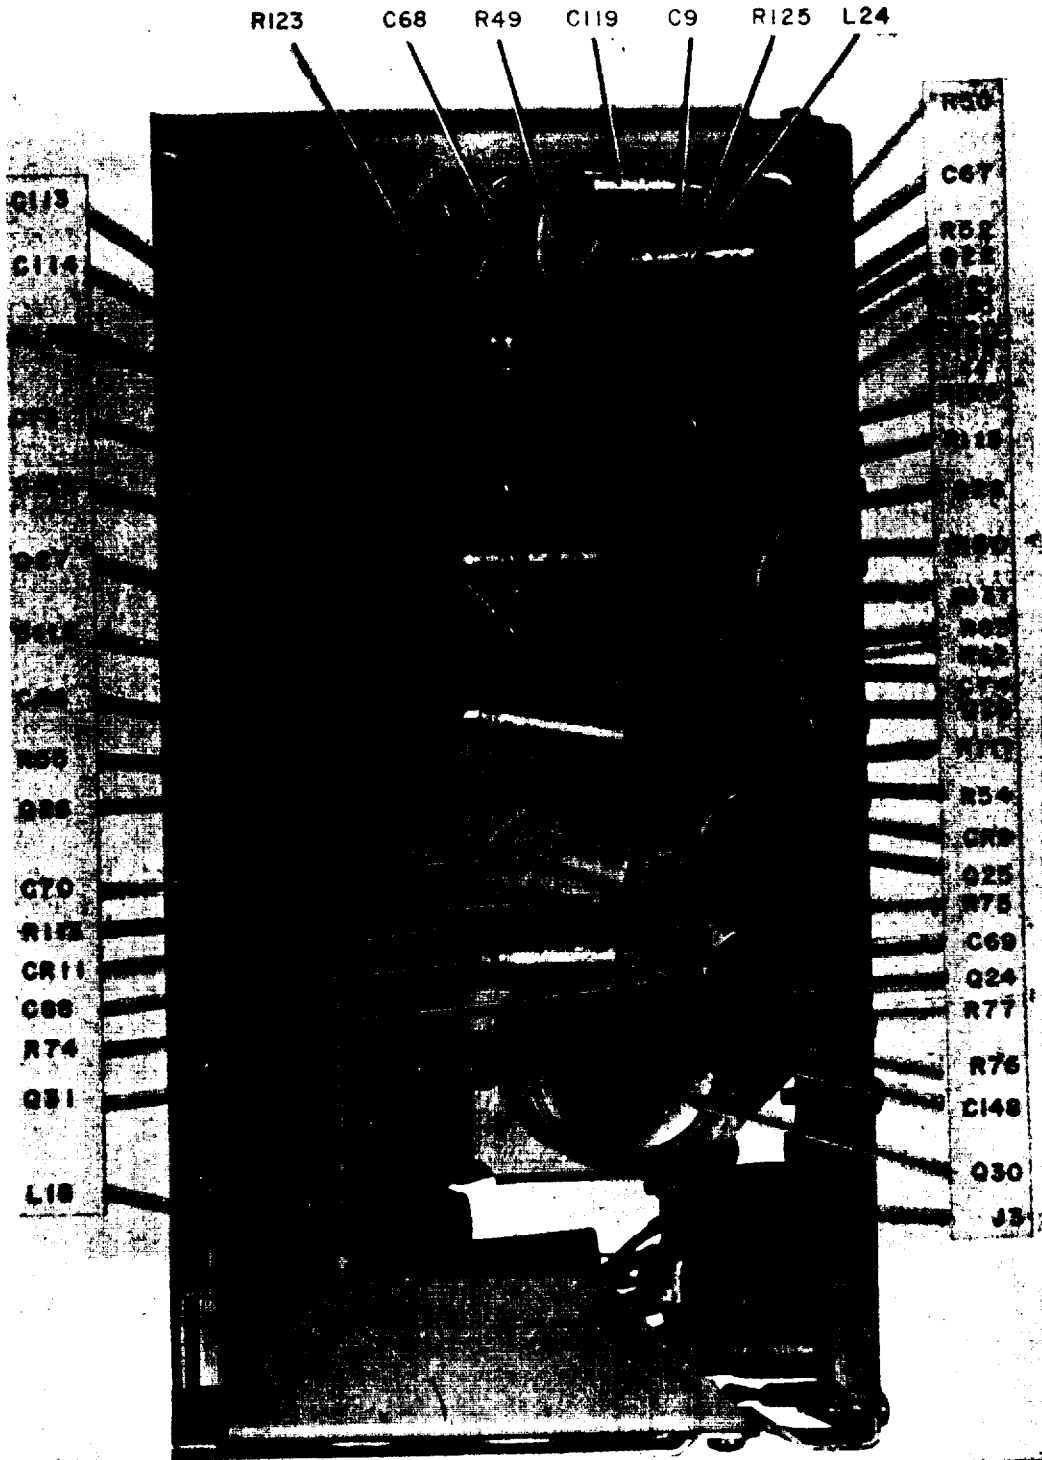

Figure 2-6. Power supply and servo compartment, right side view.
| 9 | Regulated power supply defective. | | Check transistors Q30 and Q31 (fig. 2-6). Make voltage measurements (fig. 2-17). |
| 12 | Receiver does not tune to a radio station. | Servo amplifier Q26, Q27, Q28, or Q29 defective. | Check transistors (fig. 2-6). Make voltage measurements (fig. 2-17). |
| 13 | Tuning servo does not hold station frequency, | Capacitor C74 coupled to control winding of tuning servo motor. | Check capacitor (fig. 2-6) |
| 16 | Erratic operation of bearing indicator. | <p>110-CPS oscillator stage defective.</p> <p>Push-pull resolver servo amplifier stage.</p> <p>Balanced modulator balance adjustment variable resistor R10.</p> <p>Loss of 110 cps on balanced modulator by reason of switch wafer S1-D not making contact.</p> <p>First or second RF amplifier stage defective.</p> <p>Power supply variable resistor R131 out of adjustment (provides base and emitter bias voltages for first resolver servo amplifier Q17).</p> <p>110-cps oscillator or 110-CPS amplifier defective.</p> <p>Push-pull resolver servo amplifier stage.</p> <p>First or second resolver servo amplifier stage defective.</p> <p>Synchronous filter stage defective.</p> <p>First agc amplifier defective (emitter follower function drives synchronous filter).</p> | <p>Check continuity of reference winding of B5. Using transistor tester, check transistor Q22 (fig. 2-6).</p> <p>With oscilloscope, check waveforms on base and collector of Q22 (fig. 2-18).</p> <p>Make voltage measurements (fig. 2-17).</p> <p>Check continuity of coil L32 (para 2-9a).</p> <p>Check transistors Q24 and Q25 (fig. 2-6).</p> <p>Make voltage measurements on Q24 and Q25 (fig. 2-17).</p> <p>Adjust R10 (para 3-19).</p> <p>Check continuity through switch contacts of S1-4 (fig. 2-8). Clean contacts if corroded.</p> <p>Check transistors Q1 and Q3 (fig. 2-8).</p> <p>Make voltage measurements (fig. 2-17).</p> <p>Adjust R131 (fig. 2-8 and para 3-20).</p> <p>See item 15.</p> <p>See item 15.</p> <p>Check transistors Q17 and Q18 (fig. 2-8).</p> <p>Make voltage measurements (fig. 2-17).</p> <p>Check transistors Q19 and Q20 (fig. 2-3).</p> <p>Make voltage measurements (fig. 2-17).</p> <p>Using oscilloscope, check 110-CPS waveforms on bases of Q19 and Q20. Compare with waveforms in figure 2-18.</p> <p>Check transistor Q16 (fig. 2-3).</p> <p>Make voltage measurements (fig. 2-17).</p> <p>Using oscilloscope, check for presence of 110-cps on base and emitter of Q16.</p> <p><small>Note. Before continuing with items 17 and 18, set control unit function switch to LOOP. Modulate signal generator output signal with approximately 30 percent modulation. Using LOOP switch, rotate bearing indicator to aural null in headset.</small></p> <p>Check filter capacitors.</p> |
| 17 | Will not reach aural null (sound will not cut off). | <p>Voltage regulator filter capacitor defective.</p> <p>Voltage regulator zener diode CR4 or CR11, oscillating.</p> | <p>Using oscilloscope or ac range of vtm, check for ac ripple on collector of Q30 and base of Q31 (fig. 2-6).</p> |